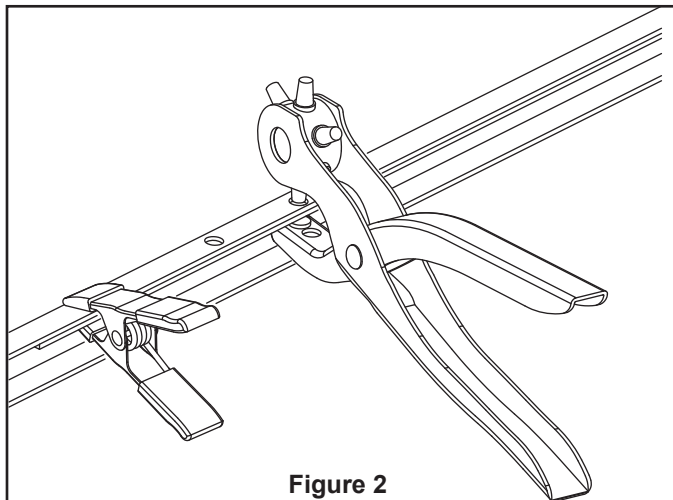

Figure 2
2. Punch two holes (approximately 1/8 inch in diameter) through the overlapping belts, spacing them one inch apart with the punch tool supplied. (Figure 2)
2. Then mount the assembled blade/blade holder onto the flywheel, secure with flywheel screws. (Figure 2)
**2.** Restore electrical power to the outlet box by turning the electricity on at the main fuse box (Figure 2).